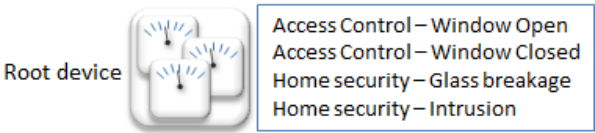
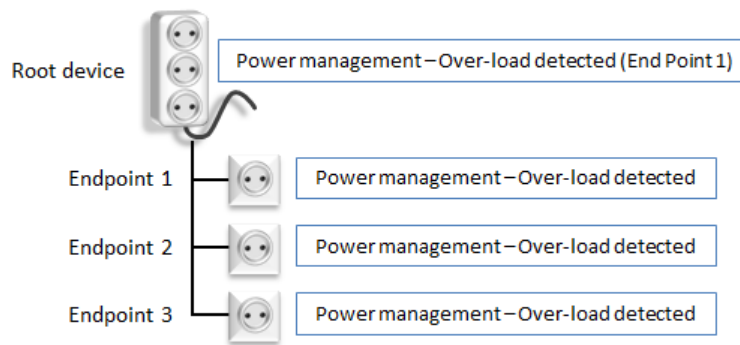

Figure 19, Multi Channel device aggregating Notifications (Lifeline group)
Figure 20, Multi Channel device with End Point notification overlap (Lifeline group)
- While End Points MAY send identical notifications via the Root Device Lifeline Group, the Root Device MUST NOT send identical Notifications on behalf of multiple End Points. Illustrations are given in Figure 19, Multi Channel device aggregating Notifications (Lifeline group) and Figure 20, Multi Channel device with End Point notification overlap (Lifeline group).